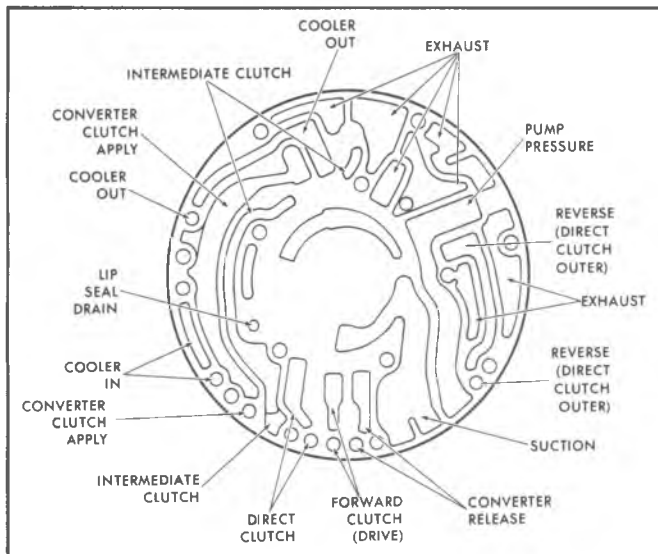

Figure 7A5-51 Pump Cover Oil Passages
3. Install pump drive gear and driven gear (Figure 7A5-46).